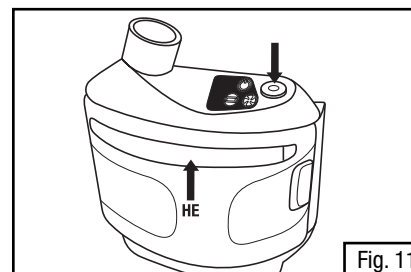

Fig. 11
- o The HE filter label must be visible through the filter cover window (See Fig. 11).
To turn on the TR-300 motor/blower, press the power button (Fig. 11) on the top of the motor/blower. The unit will perform a self diagnostic. The green power on (Fig. 12-1), amber low battery (Fig. 12-2) and red low flow (Fig. 12-3) LEDs will flash 2 to 3 times and alarms will sound during this time. To turn off the motor/blower, press and hold power button for 2 seconds.
- Ensure the HE filter is properly installed in the PAPR unit and that the cover latch is secure per this *User Instructions*. The HE filter label must be visible in the cover window (See Fig. 11). The HE filter should not be stored long-term in the motor/blower unit